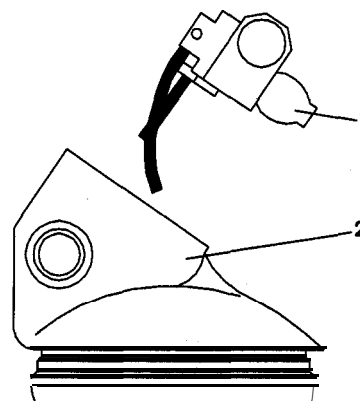

Figure 9
- Remove balanced piston unit (1) from demand regulator body. (2) (Figure 9)